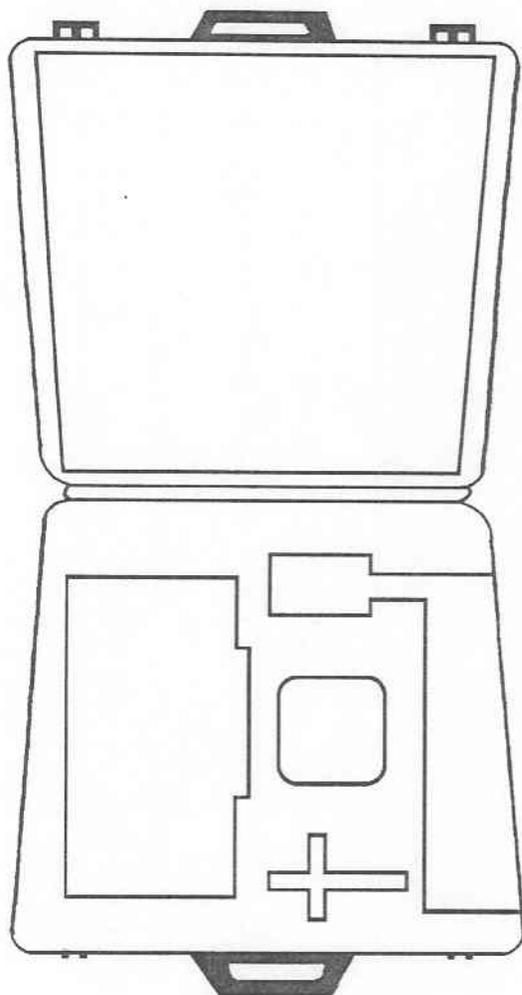

Figure 1-5. Case.
d. *Case (fig 1-5).* The case, with polyurethane cushioning material, provides protection for the ventilator during transit and it also provides for storage of ventilator components and accessories. The polyurethane material has cutouts to position the ventilator components.